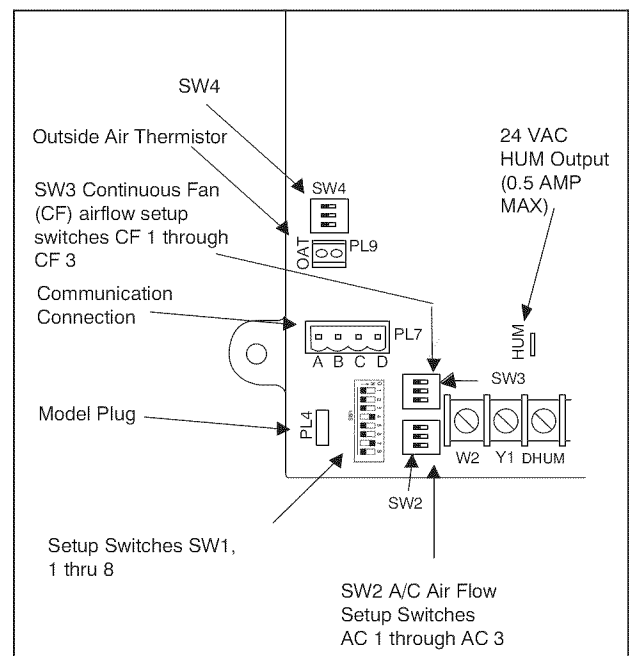

Fig. 42 - Furnace Control
5. Turn Setup Switch SW1-2 on furnace control ON (see Fig. 42).
7. Verify SW1-2 on furnace control is turned "ON". See Fig. 42.